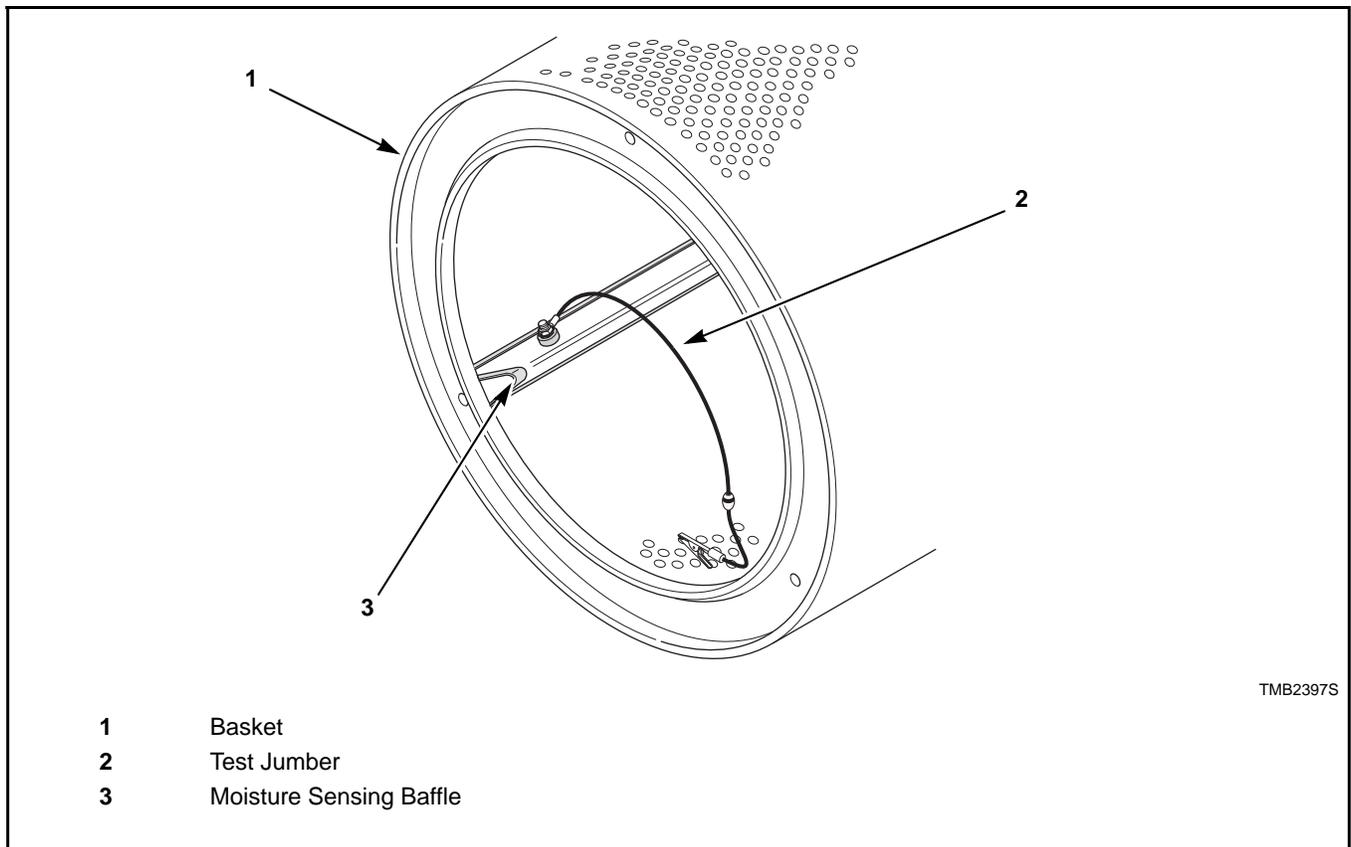

Figure 10
2. Insert ohm meter probes into pins 1 and 2 of the harness. If the metered value is infinite resistance, open load (OL), proceed to step 3. If not, proceed to *Paragraph 53*.
3. Create a direct short between machine basket and moisture sensing baffle/ground using test jumper (Refer to *Figure 10*). If metered value is less than 1 ohm, circuit is functioning properly; double-check machine configuration and cycle programming. If 1 ohm or greater, proceed to *Paragraph 53*.
1. Remove three (3) screws holding slip ring assembly to basket shaft.
4. Connect one ohm meter probe to the connector in the basket shaft. Connect the other ohm meter probe to the basket shaft itself. If the metered value is infinite resistance, open load (OL), proceed to Step 5. If not, remove machine basket and proceed to *Paragraph 56*.
5. Create a direct short between basket and moisture sensing baffle (Refer to *Figure 10*).
8. Connect the other ohm meter probe to one of the moisture sensing baffles (refer to *Figure 10*). If the metered value is less than 1 ohm, proceed to Step 9. If 1 ohm or greater, proceed to *Paragraph 57*.